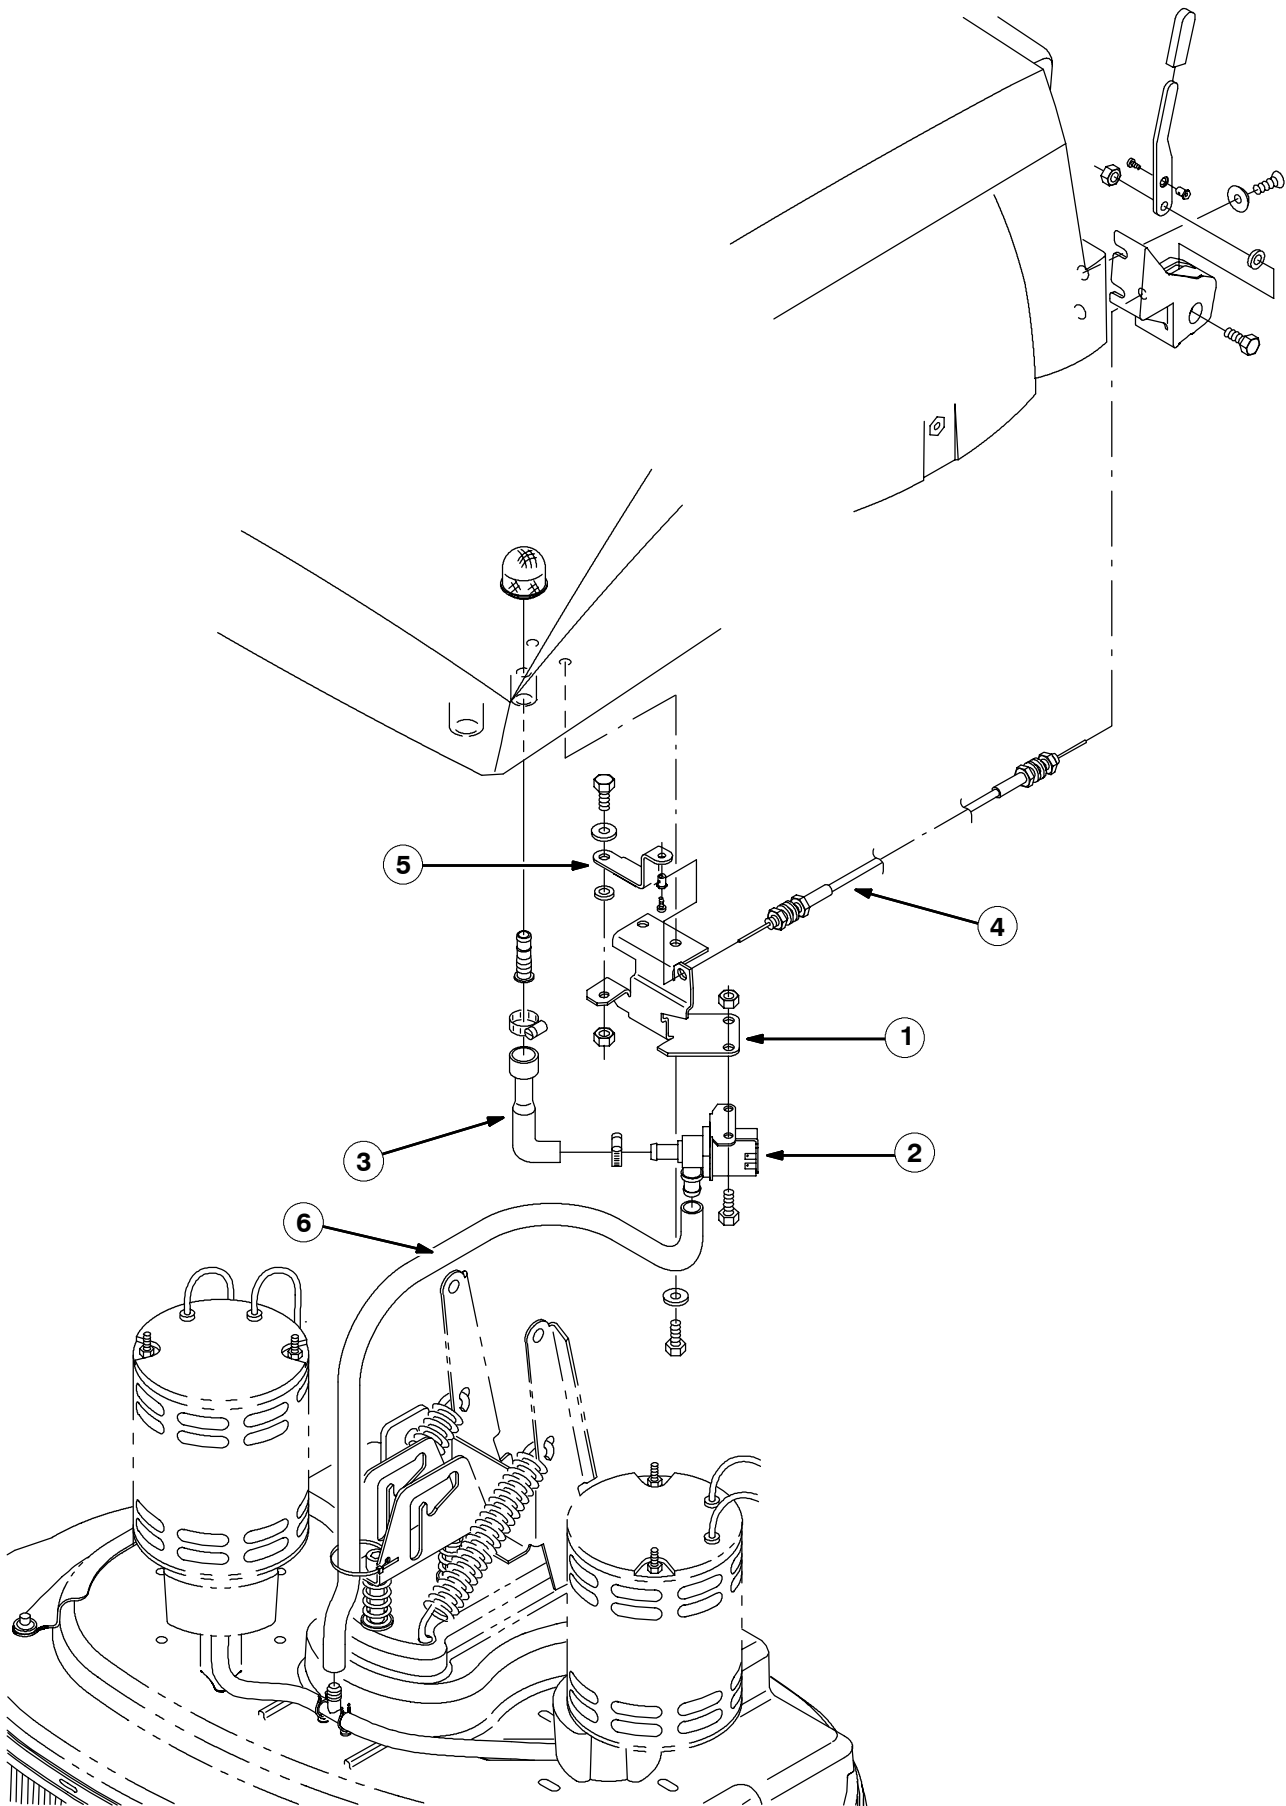

FIG. 2-New Solution Control Group, 5680
7. Assemble the new solenoid valve (2) to the new mounting bracket (1) with two hex screws and lock nuts. Tighten hardware to 16–20 ft lbs. (Refer to FIG. 2)
8. Mount 90° water hose (3) to the solenoid valve (2) with wormdrive clamp. Hand tighten the wormdrive clamp with 5/16 nut driver. (Refer to FIG. 2)
9. Assemble the pinch lever (5) to the bracket (1) with a nylon washer (between the lever and bracket), hex screw, flat washer and lock nut. Hand tighten hardware. The pinch lever should move with a slight tension. (Refer to FIG. 2)
10. Mount the valve (2) and bracket (1) assembly to the bottom of the solution tank. Tighten hardware to 16–20 ft lbs. (Refer to FIG. 2)
11. Connect the 90° water hose (3) to the tank with wormdrive clamp. Hand tighten the wormdrive clamp with 5/16 nut driver. (Refer to FIG. 2)
12. Connect one end of the new push pull cable (4) to the pinch valve lever (5) with the swivel and pan screw. Hand tighten the securing hardware. (Refer to FIG. 2)
13. Route the new push pull cable (4) under the bottom of the solution tank, back to the control lever. Ensure that the 90° water hose (3) is closed when the lever is pulled back, and that the lever stays in the closed position. Tighten the pinch lever accordingly. (Refer to FIG. 2)
14. Secure the new push pull cable (4) to the control lever with the swivel and pan screw. (Refer to FIG. 2)